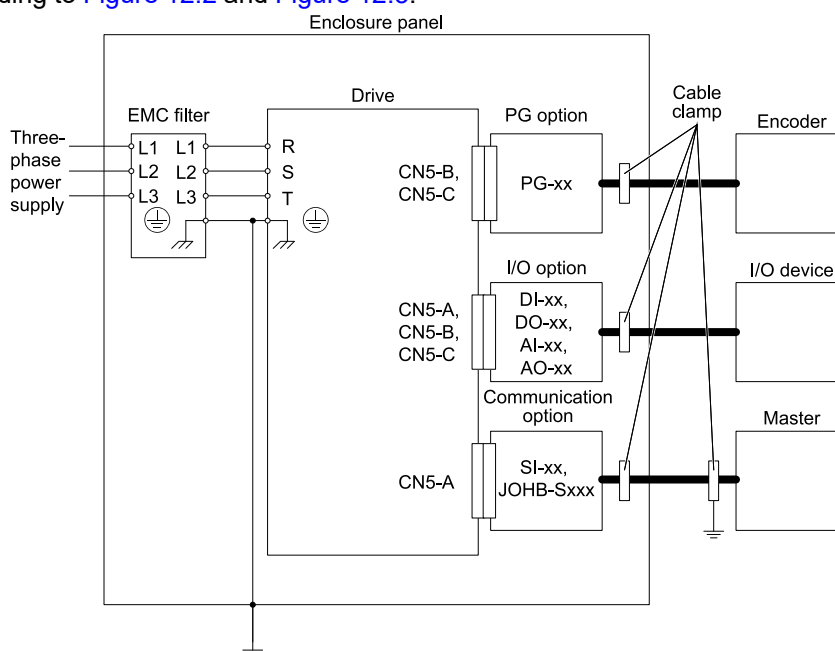

Figure 12.2 Option Installation for CE Compliance: 1000-Series, GA700, GA800, CR700
2. Keep wiring as short as possible and ground the largest possible surface area of the shield to the metal panel according to Figure 12.2 and Figure 12.3.